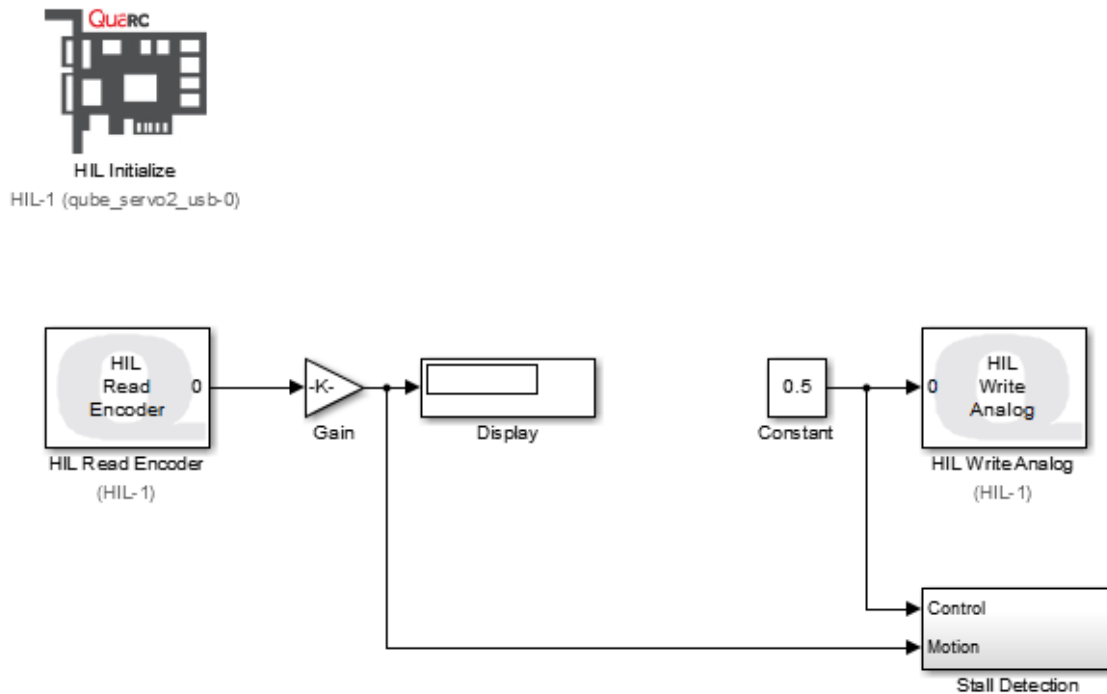
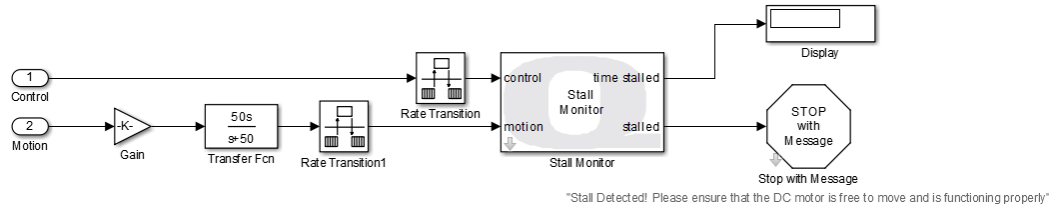

Figure 2.1: Simulink model used with **QUARC®** to drive motor and read angle on QUBE-Servo 2
Figure 2.4: Stall Detection Subsystem
In this lab, we will make a **SIMULINK®** model using **QUARC®** blocks to drive the DC motor and then measure it's corresponding angle - as shown in Figure 2.1.
2. Connect the HIL Read Encoder to a Gain and Display block similar to Figure 2.1 (without the HIL Write Analog block). In the Library Browser, you can find the Display block from the Simulink | Sinks and the Gain block from Simulink | Math Operations.
2. Add the Constant block found in the *Simulink | Sources* folder to your Simulink model. Connect the Constant and HIL Write Analog blocks together, as shown in Figure 2.1.
Note: We recommend including a Stall Monitor block that is part of the Stall Detection block in Figure 2.1 and Figure 2.4. This block will monitor the applied voltage and speed of the DC motor to ensure that it does not stall. If the motor is motionless for more than 20 s with an applied voltage of over ± 5 V, the simulation is halted to prevent the QUBE-Servo 2 from overheating and subsequent potential damage to the motor.